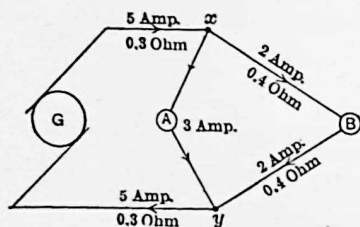

FIG. 68.
gram somewhat as in Fig. 68. This shows very clearly that there are two paths between the points (x) and (y). One path is directly through the lamp (A). The other is through the 0.4-ohm line wires and lamp (B). Therefore, the lamp (A) is in parallel with the